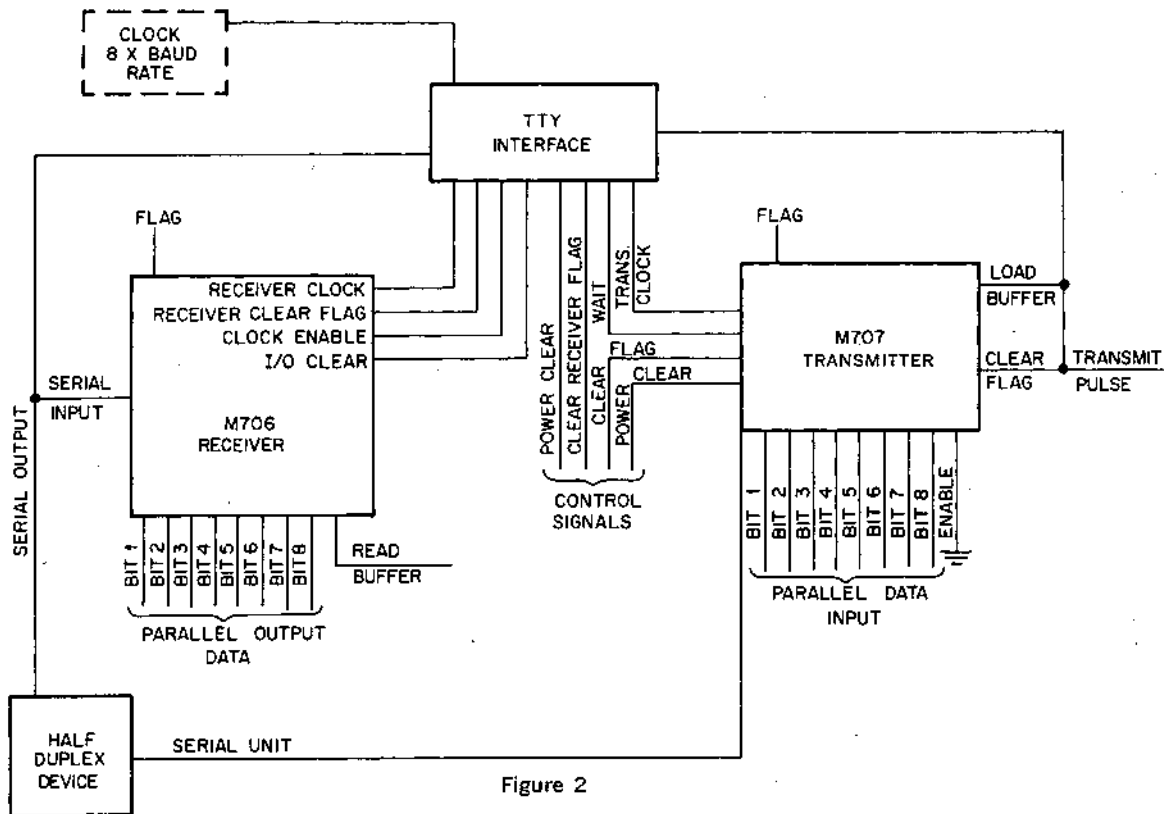

Figure 2
If the M706 is used for half duplex operation (Figure 2), active (0) should be connected to the wait input of the M707.